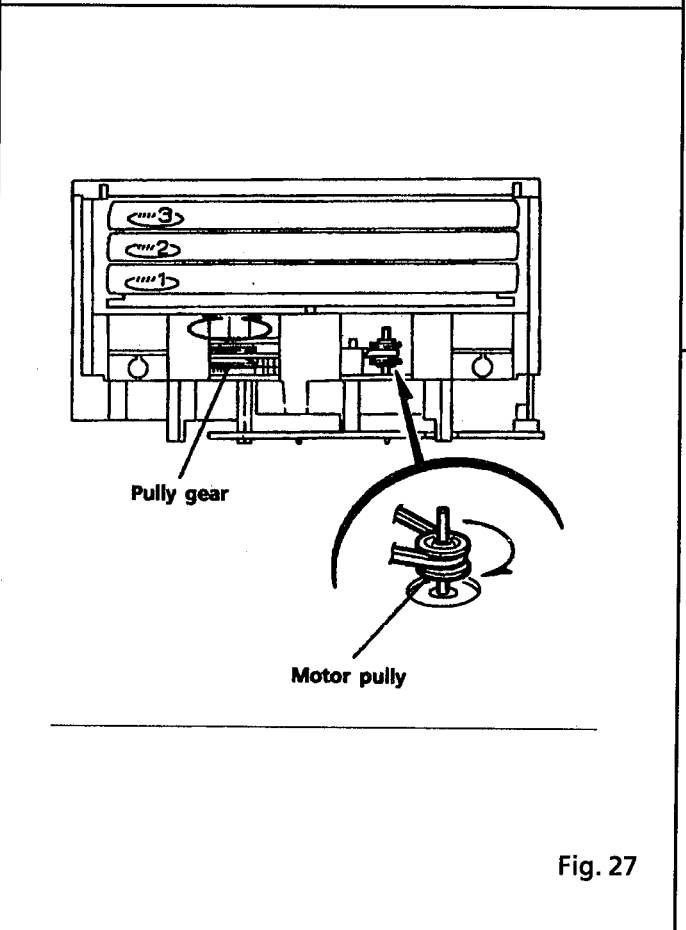
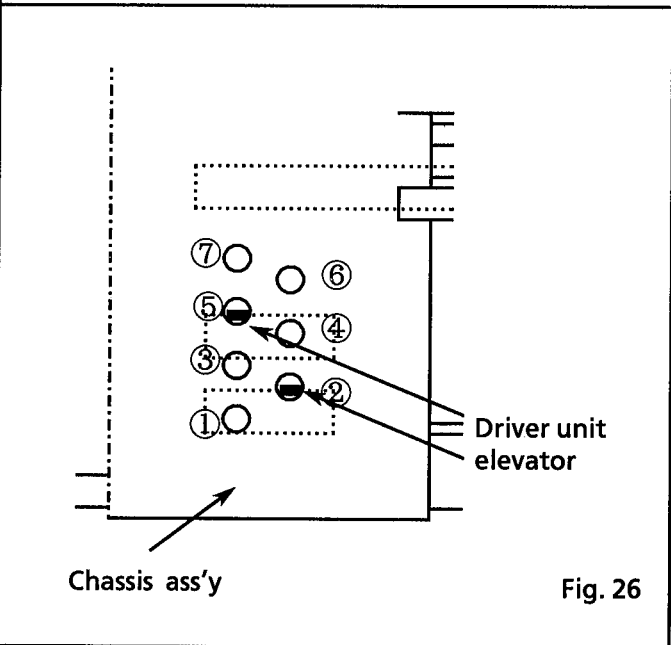

Fig. 27
Fig. 26
[NOTE] Set the elevator in correct position (Fig. 26) by rotating the pulley gear with finger if it is not positioned correctly (Fig. 27.).
12. Rotate the motor pulley clockwise with finger until the lifter unit's stopper is lowered from ⑤hole located on the CD tray ass'y. (See Fig. 27.)